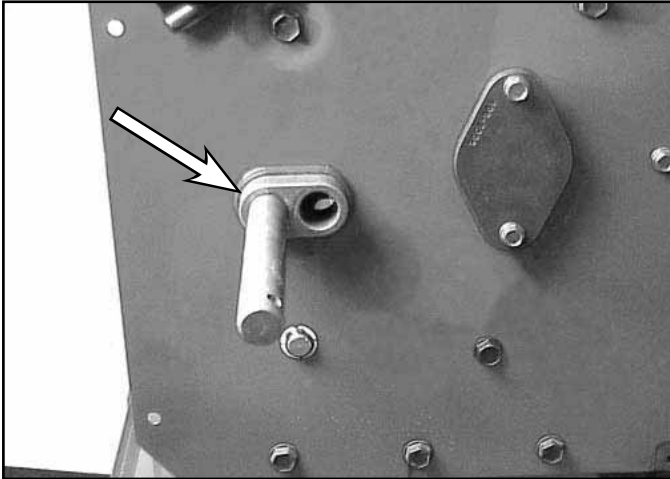

Fig 157
9. Make sure the axle bearing end that is holding the axle shaft is on the bottom (Fig. 157).